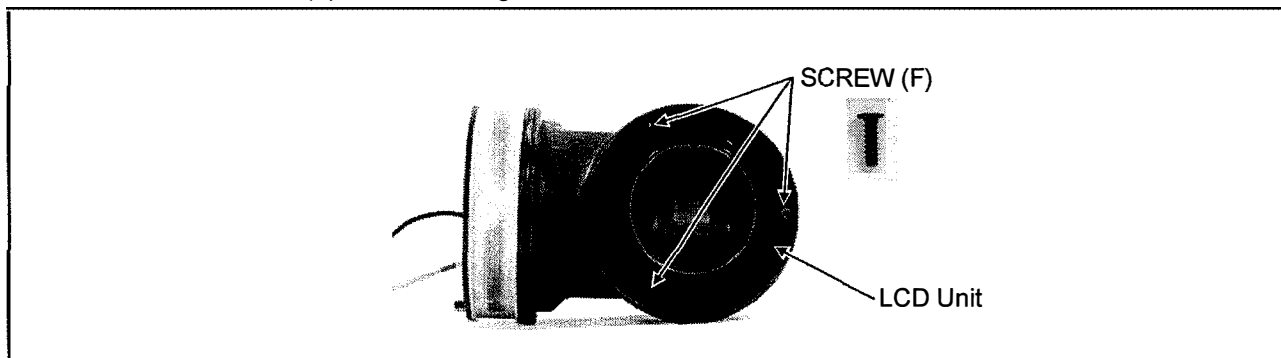

Figure 12-3
8. Unscrew the 3 screws (F) as shown in figure 12-3 and remove the LCD Unit.